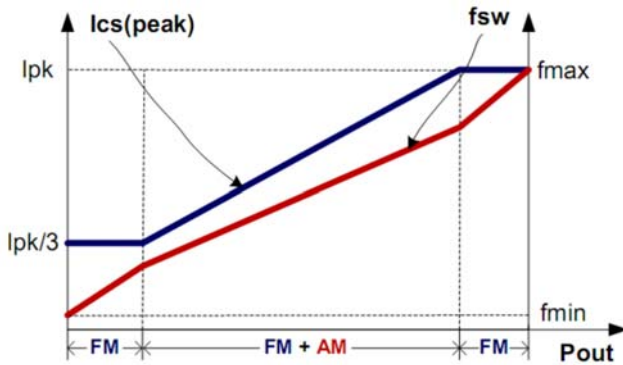

Fig.4
To meet the tight requirement of averaged system efficiency and no load power consumption, a hybrid of frequency modulation (FM) and amplitude modulation (AM) is adopted in U6118 which is shown in the Fig 4.